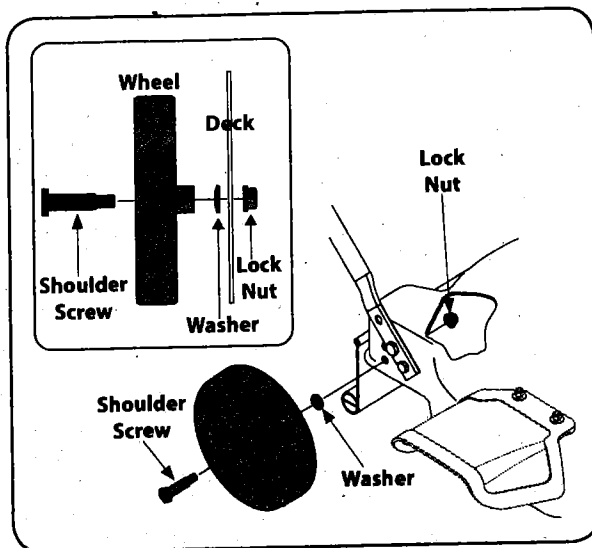

Figure 3-4
1. Secure each wheel to the deck as shown in Figure 3-4.